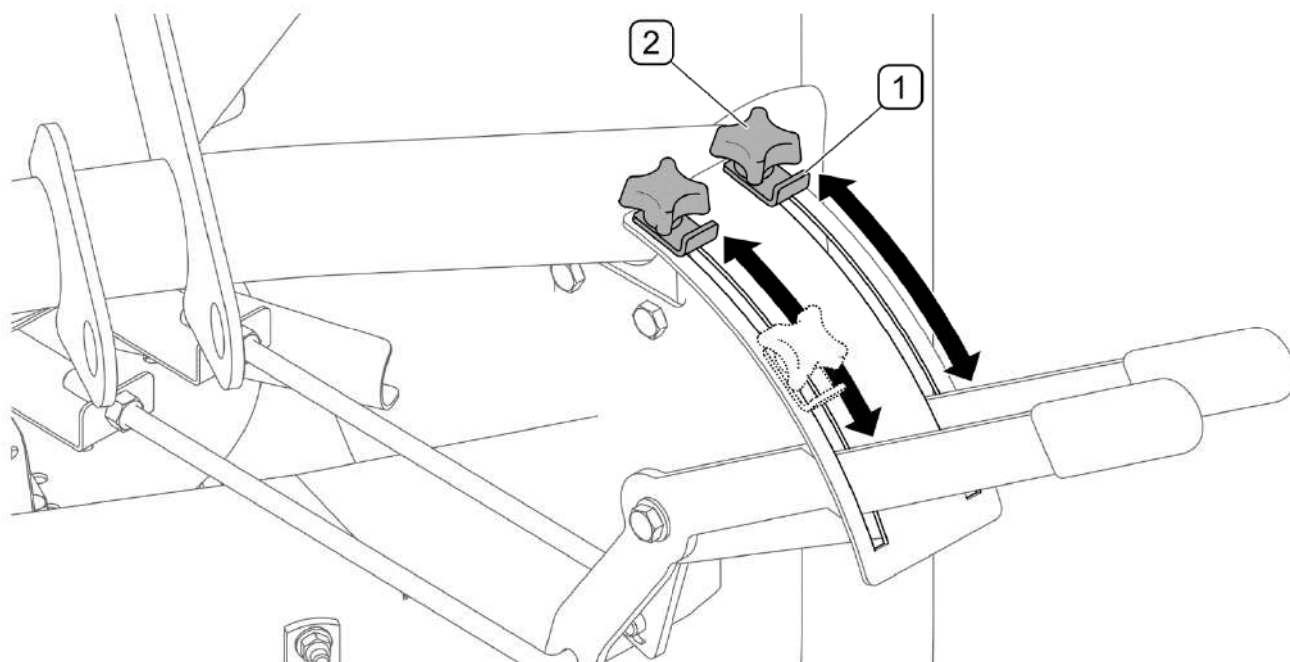

FIG. 4.6 Lever limiters (FD1-M03 / M05)
(1) - buffer; (2) - knob
Lever limiters in FD1-M03 / M05 fertilizer spreaders consist of buffer (1) and knob (2) and are used for setting the maximum position of the spreading dose adjusting levers. They also facilitate restoring previously set position of the levers. To shift the limiter, loosen knob (2), shift it to a required position and tighten the knob (FIG. 4.6)